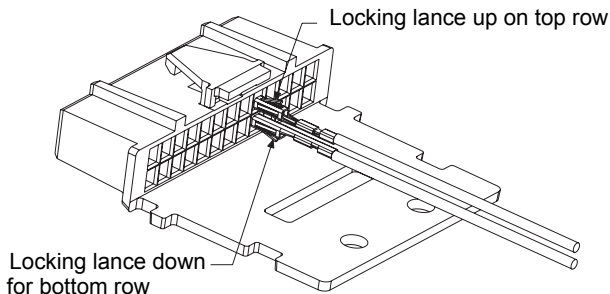

Figure 2 Terminal Orientation
7. Insert the contacts into pin locations #9 and #10 on the accessory connector as shown in *Figure 2*.